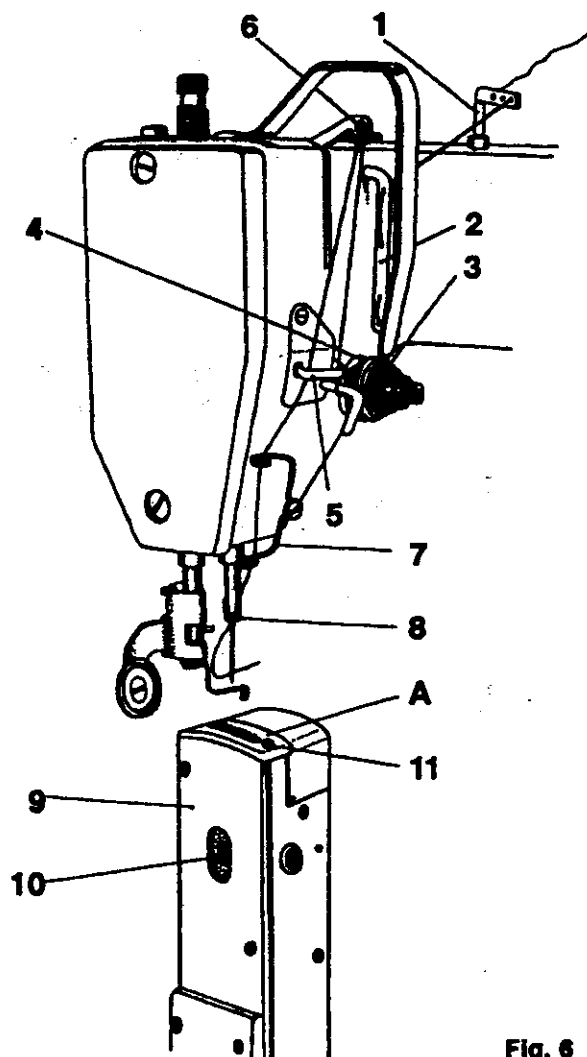

Fig. 6
8. To thread upper thread (Fig. 6)
3. To adjust the height of feed-dog (Fig. 6)
5. To adjust throat plate (Fig. 6)